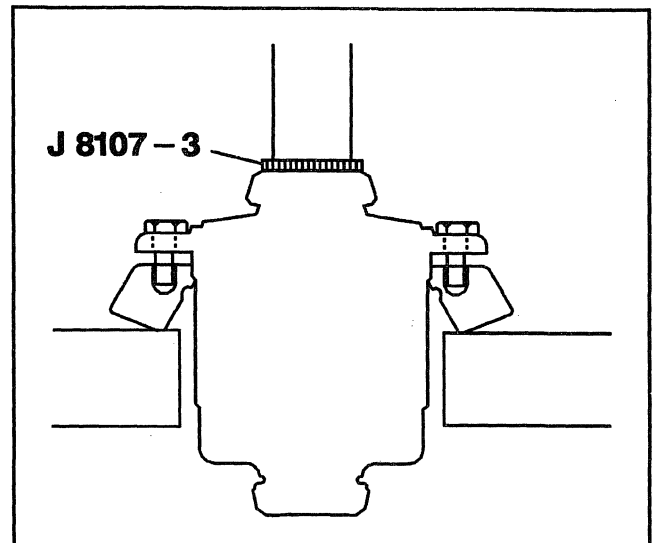

Figure 14—Installing the Ring Gear to Case
5. Ring gear (14) to the differential (Figure 14).
6. Ring gear bolts (36).